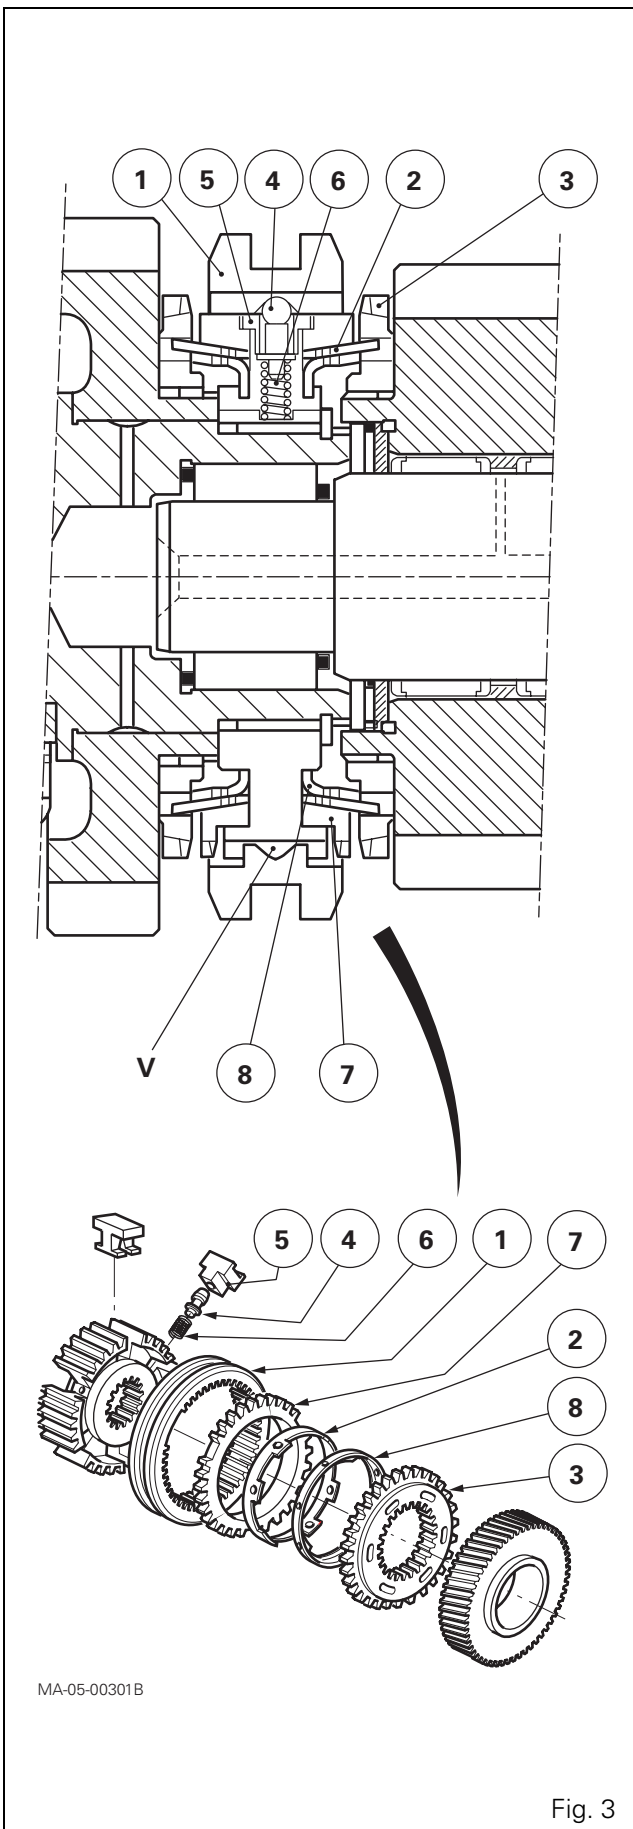

Fig. 3
Parts list (Fig. 3)
Locked position (Fig. 3)
Neutral position (Fig. 3)
8. Disconnect and remove the potentiometer sensor (1) located above and on the right-hand side of the selector cover plate (Fig. 3).